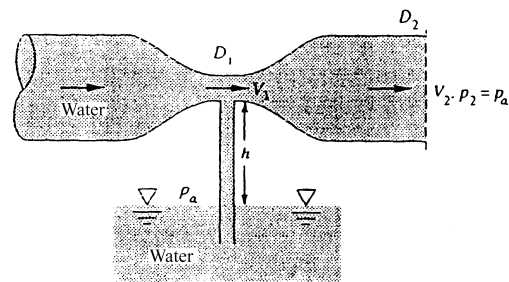

Fig. P3.161
**3.161** A necked-down section in a pipe flow, called a *venturi*, develops a low throat pressure which can aspirate fluid upward from a reservoir, as in Fig. P3.161. Using Bernoulli's equation with no losses, derive an expression for the velocity  $V_1$  which is just sufficient to bring reservoir fluid into the throat.